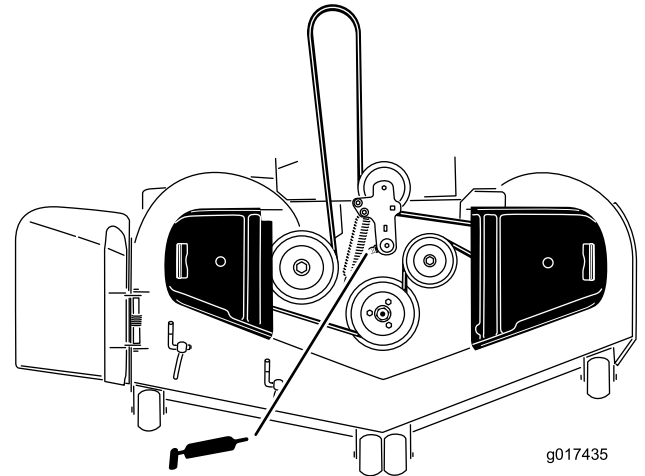

Figure 34
3. Grease the mower deck idler-pulley pivot until grease comes out of the bottom (Figure 34).